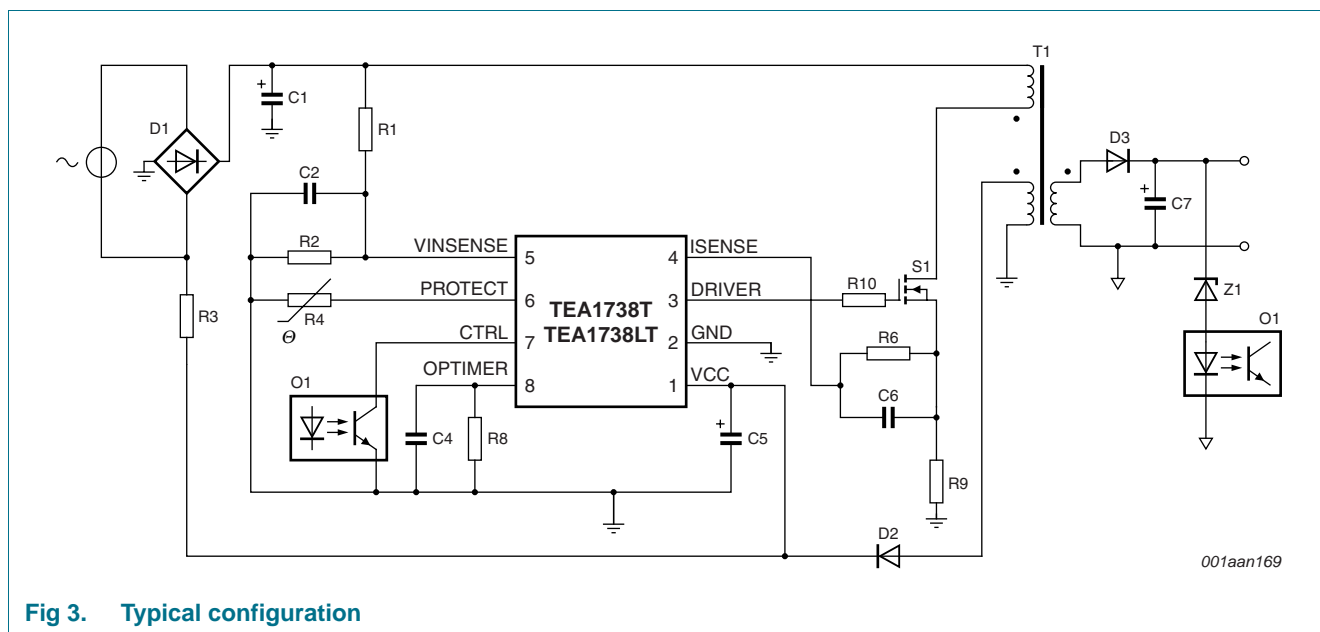
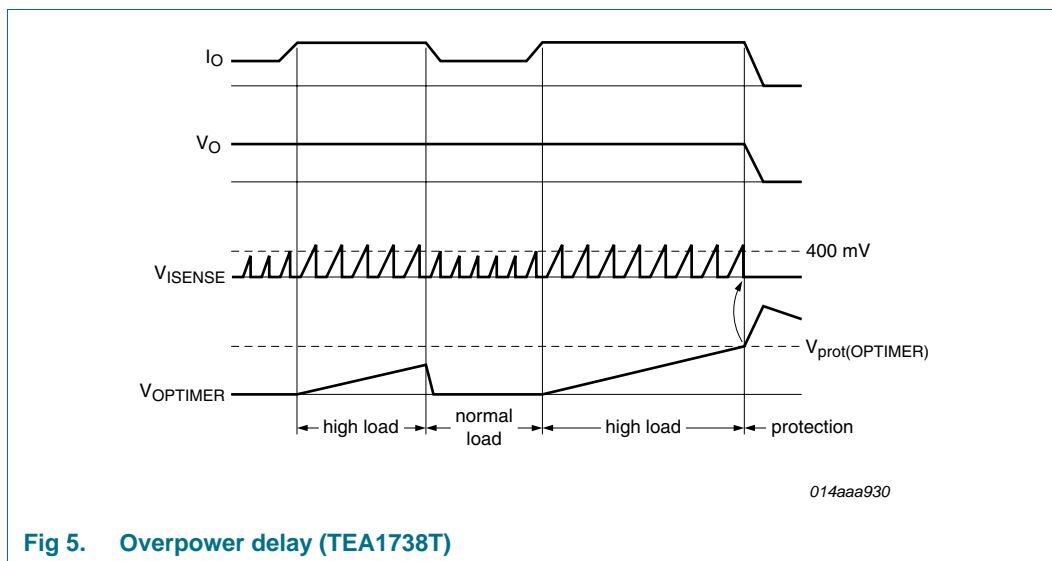
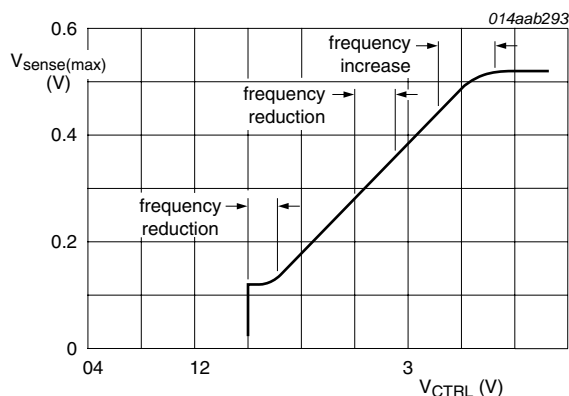
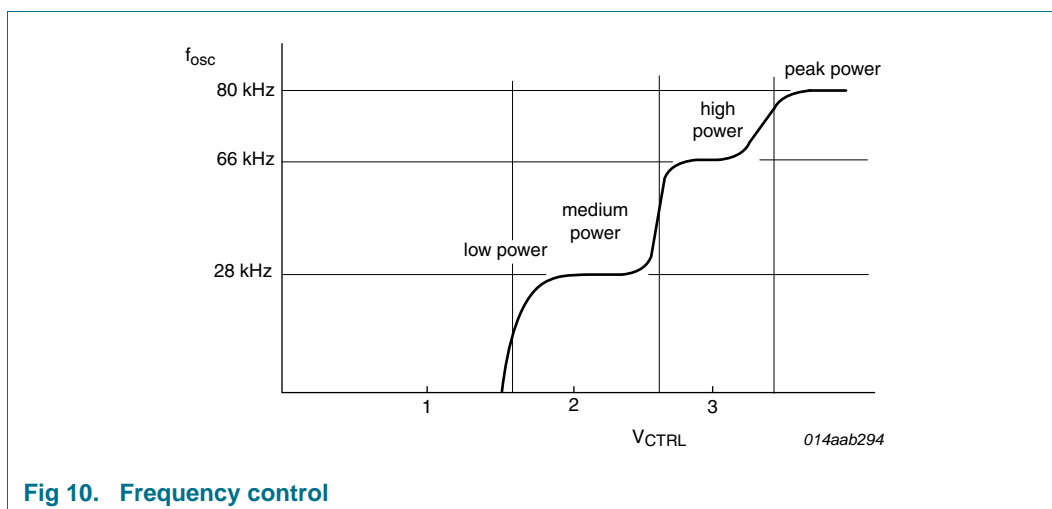

Fig 3. Typical configuration
Fig 5. Overpower delay (TEA1738T)
Fig 7. Peak current control
Fig 10. Frequency control
The TEA1738(L) contains a flyback circuit controller, a typical configuration of which is shown in Figure 3.
If the OPTIMER pin is connected to capacitor C4 (see Figure 3), a temporary overload situation is allowed. $V_{\text{ctrl(Ipeak)}}$ (see Figure 1) is set by pin CTRL. When $V_{\text{ctrl(Ipeak)}}$ is above 400 mV, the $I_{\text{IO}(\text{OPTIMER})}$ current (11 μA typical) is sourced from the OPTIMER pin. If the voltage on the OPTIMER pin reaches the $V_{\text{prot}(\text{OPTIMER})}$ voltage (2.5 V typical) the OverPower Protection (OPP) is triggered (see Figure 5).
The primary current is sensed by the ISENSE pin across external resistor R9 (see Figure 3) and compared with an internal control voltage. The internal control voltage is proportional to the CTRL pin voltage (see Figure 7).
A soft start is performed to prevent audible noise during start-up or a restart condition. Before the converter (re)starts, soft start capacitor C6 (see Figure 3) on the ISENSE pin is charged. When the converter (re)starts switching, the primary peak current slowly increases as the soft start capacitor discharges through the soft start resistor (R6, see Figure 3).
The switching frequency is increased for peak power operation. In medium power operation the switching losses are reduced by lowering the switching frequency. A second frequency reduction step is made when the output power is reduced to low power. In low power operation the converter switching frequency is reduced while the peak current is set to 25 % of the maximum peak current (see Figure 7 and Figure 10).